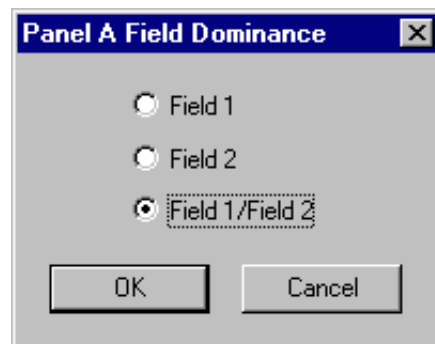

Figure 64. Field Dominance dialog box
1. Choose **Options | Field Dominance**. The Field Dominance dialog box appears (Figure 64).